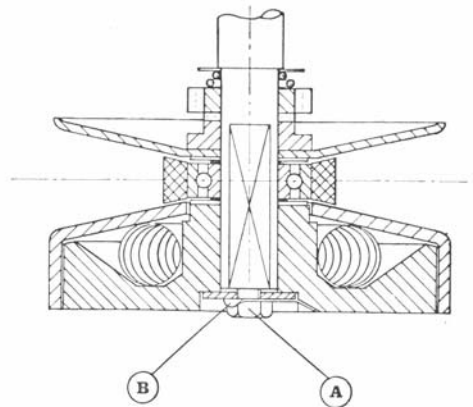

fig 22
6.3 Expanding Pulley (fig. 22)
- loosen screw A, fig. 22 from the lock washer B;
- unscrew screw A, fig. 22.
- 8.4 **Jamming of the expanding pulley** (fig. 22)